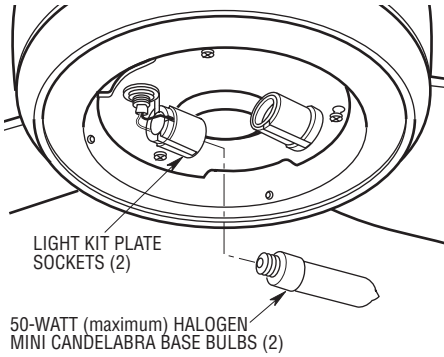

Figure 15
- 1. Screw in two 50-watt (maximum) halogen mini candelabra base bulbs in the light kit plate sockets (Figure 15).